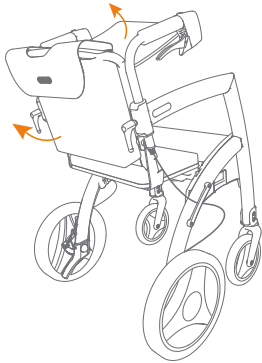
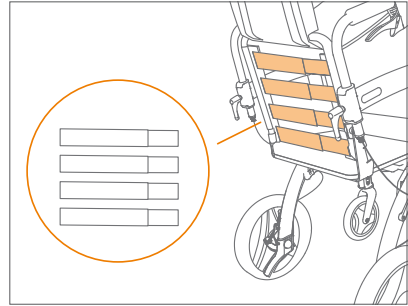

Figure 50: Clear adjustment straps.
Figure 51: Four adjustable adjustment straps.
- b. Pull up the bag of the wheelchair package and the backrest cover from the bottom (**Figure 50**). The adjustment straps are now clearly visible (**Figure 51**).